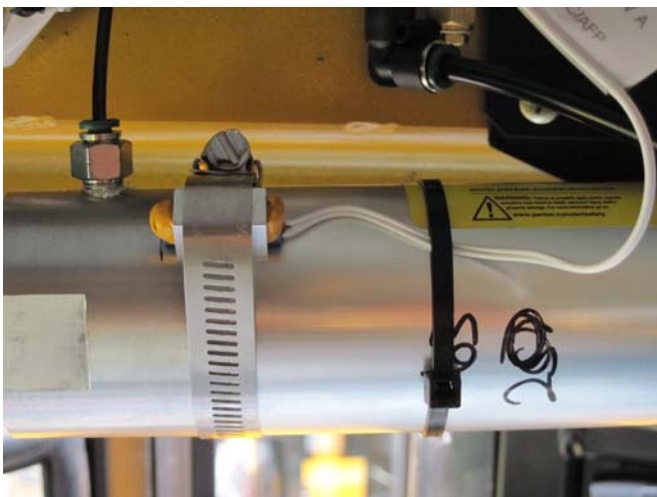

Figure 8
7. Place the tie wrap around the switch wires and actuator body. This will act as a strain relief for the entrance door position switch wiring. **Figure 8**